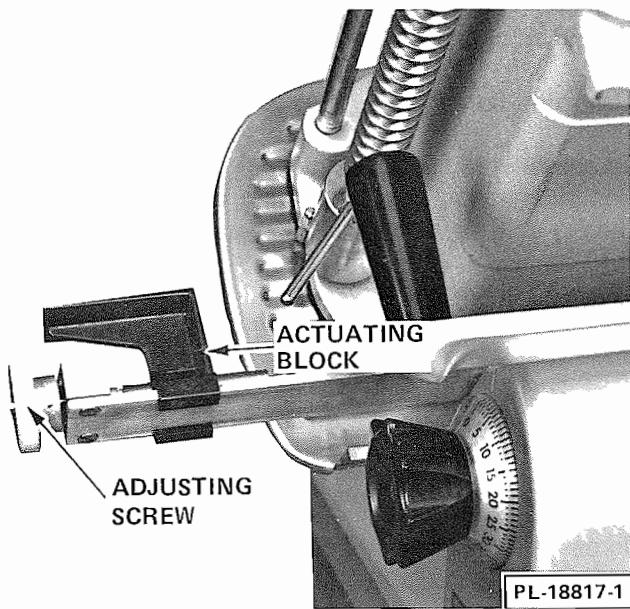

Fig. 11
**For automatic slicing**, turn the adjusting screw (Fig. 11) until the front edge of the actuating block (Fig. 11) is at the setting (1, 2, 3, or 4) which matches that of the index knob. For example, if the index knob is set on 2, align the actuating block with the number 2 groove on the slide bar. This matches the feed speed with slice thickness. If the texture of the product causes inconsistent slices, advance the actuating block beyond the initial setting to increase feed pressure.